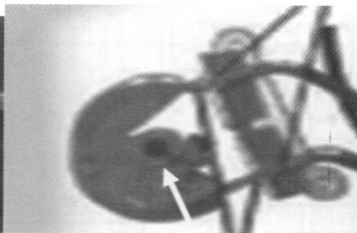

Fig.3
b. First step to remove the turning gear (shift plate) and the turning gear bracket . (See Fig.3)